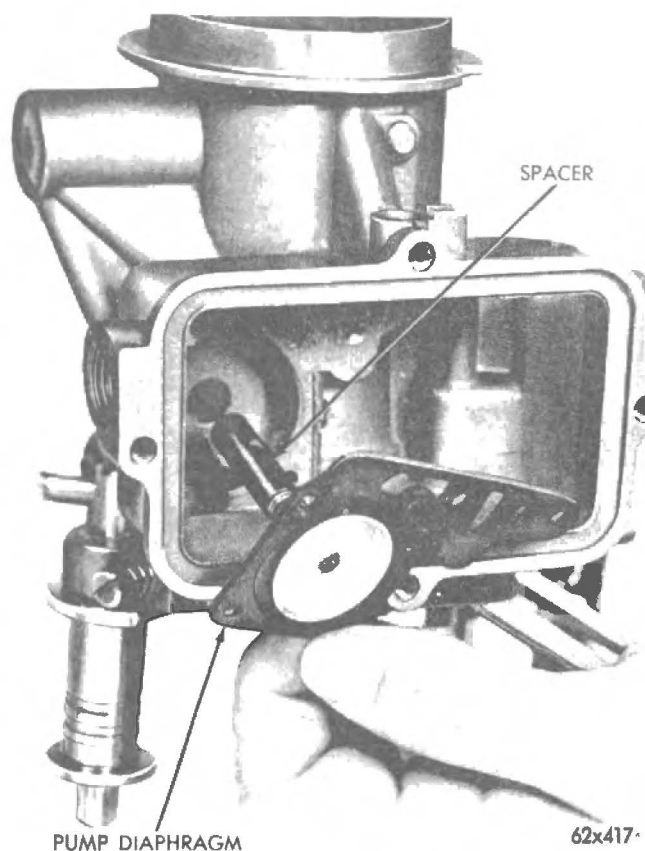

Fig. 16 - Removing or installing pump diaphragm and stem.
(8) Slide the pump diaphragm and spacer assembly out of the fuel bowl, (Fig. 16).
(9) To disassemble the pump diaphragm, compress the spacer slightly toward the diaphragm until the ball drops out. Slide spacer and spring off the diaphragm stem (Fig.).
(6) Slide the pump diaphragm and stem into position in the carburettor, then install the pump return spring (Figs. 16 and 15).